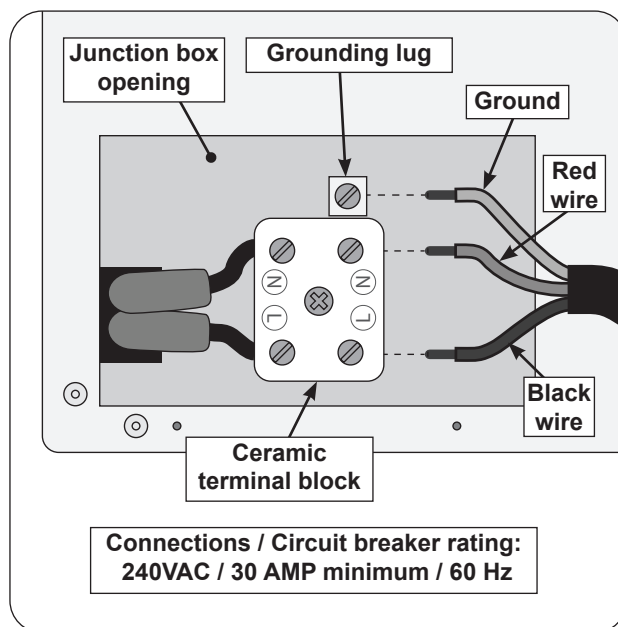

Fig. 23-2 Wire connection diagram
3. Connect the wires to the ceramic terminal block. Reference the wiring information below and Fig. 23-2.